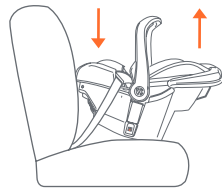
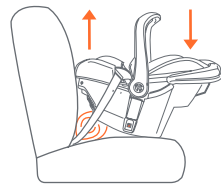

Fig. 52-2
Fig. 52-3
- If the Seat Angle Indicator line is not level, the Safety Seat is either **too upright** or **too reclined**. If the Safety Seat is too reclined adjust the Safety Seat as shown in (Fig. 52-2), until the level indicator shows **level**. If the Safety Seat is too upright, place a tightly rolled towel, or pool noodle, under the foot end of the Safety Seat until the level indicator shows level (Fig. 52-3). Re-tighten the vehicle seat belt as instructed in section **Securing the Safety Seat or Base in the Vehicle**.